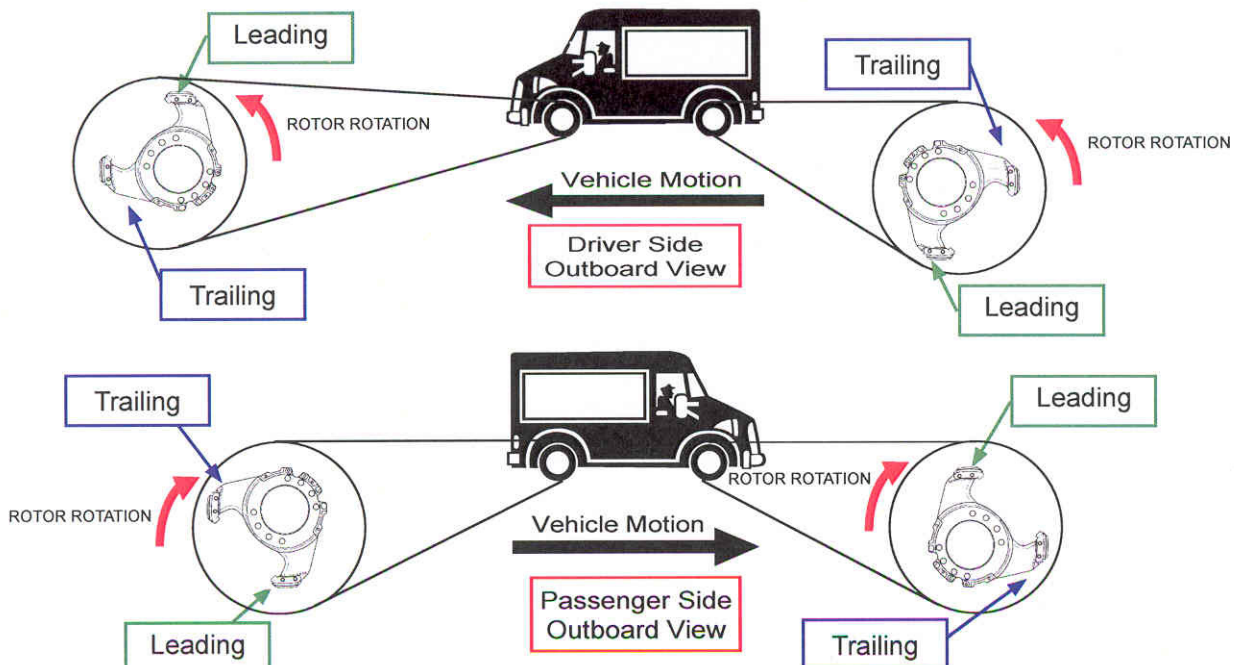

Figure 24. Definition of Leading and Trailing
- Imagine a point on exposed outboard surface of the rotor. Now rotate the rotor as if the vehicle were moving in the forward direction. The **FIRST** mounting pin that this point passes is the **LEADING** position. The other is the **TRAILING** position. See *Figure 24*.